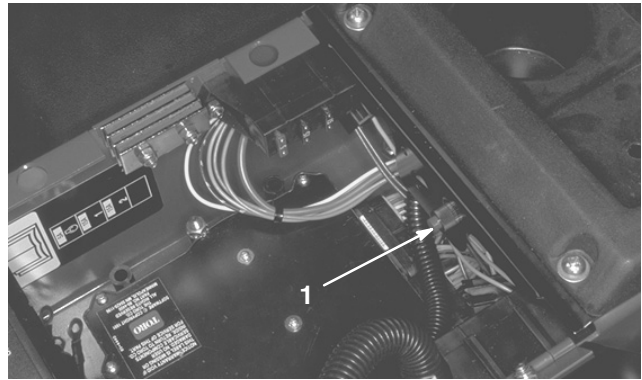

Figure 28
The machine is equipped with a diagnostic light which indicates if the electronic controller is functioning correctly. The green diagnostic light is located under the control panel (Fig. 28). When the electronic controller is functioning correctly and the key switch is moved to the ON position, the controller diagnostic light will be illuminated. The light will blink if the controller detects a malfunction in the electrical system. The light will stop blinking and automatically reset when the key switch is turned to the OFF position.
3. Connect the Diagnostic ACE display connector (Fig. 28) to the harness connector. Make sure correct overlay decal is positioned on Diagnostic ACE display.